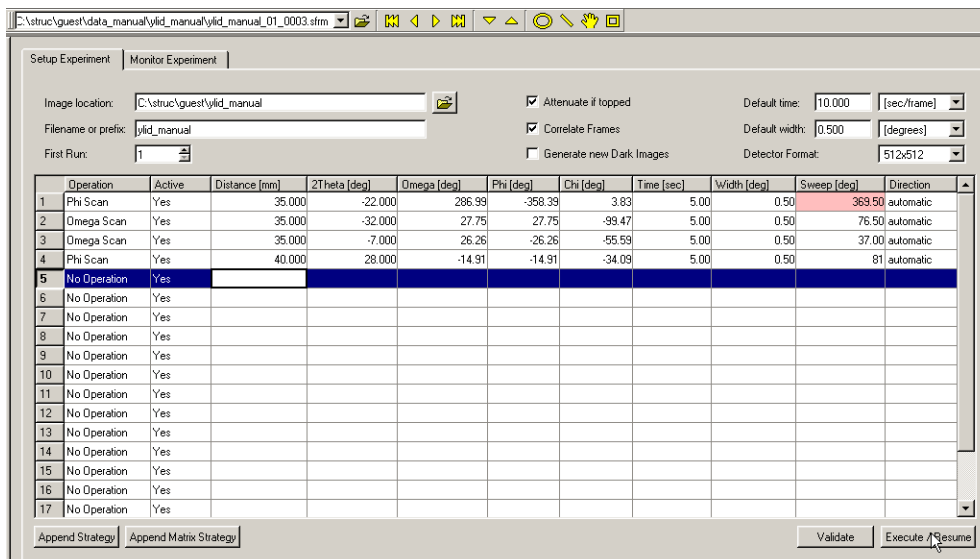

Figure 6.23 - Experiment view with strategy appended
**NOTE:** At the top of the experiment window are controls for data collection. Usually the default values are correct. For data collection times of less than five seconds, correlation can usually be turned off. If new dark frames are required, APEX2 will automatically collect them. Checking “Generate New Darks” will force the collection of darks before every run. In Figure 6.23, the time and width are explicitly set for each run, so changing the default width and time will have no affect. If the explicit time or width for a run is deleted so the box is empty, the default values will appear and be used.